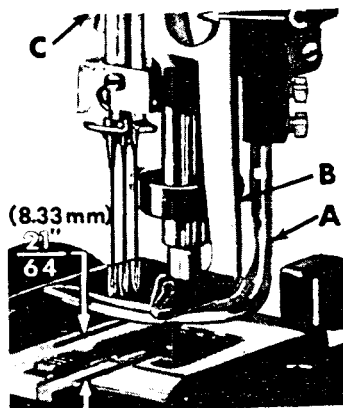
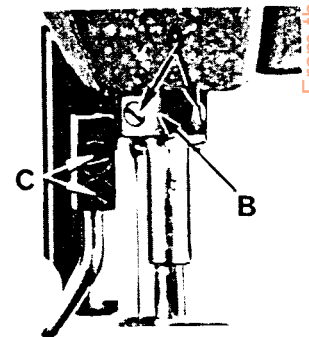

Fig. 15
Fig. 16
With the needle bar in the up position, and the spreader (A, Fig. 15) at the left end of its stroke, the upper spreader point should extend $\frac{7}{32}$ inch (5.56 mm) to the left of the center line of the left needle. This is accomplished by loosening screws (A, Fig. 16) and rotating spreader holder (B) to position the upper spreader point. Retighten screws.
CAUTION: The spreader holder is also the lower thrust collar for the spreader shaft, so when tightening screws (A, Fig. 16) be sure to push down on the spreader shaft and up on the spreader holder.
The spreader should clear the left needle shank by $\frac{1}{64}$ to $\frac{1}{32}$ inch (.40 to .79 mm) and the bottom of the spreader should be $\frac{21}{64}$ inch (8.33 mm) above the throat plate (Fig. 15). To adjust, loosen screws (C, Fig. 16) and position spreader as required.
The left edge of the spreader thread guide (B, Fig. 15) should clear the right needle by approximately $\frac{3}{32}$ inch (2.38 mm) and be kept close to the top of the spreader. This is accomplished by loosening screws (C) and moving the guide as necessary.